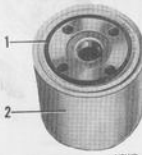

Fig. 2-61. Oil filter ready for fitting
2. Coat the rubber gasket (1, Fig. 2-61) of the new filter with oil and make sure that the contact surface for the oil filter is free from dirt. By smearing it with oil, the gasket slides into better contact with the sealing surface. Screw on the filter by hand until it just touches the cylinder block.